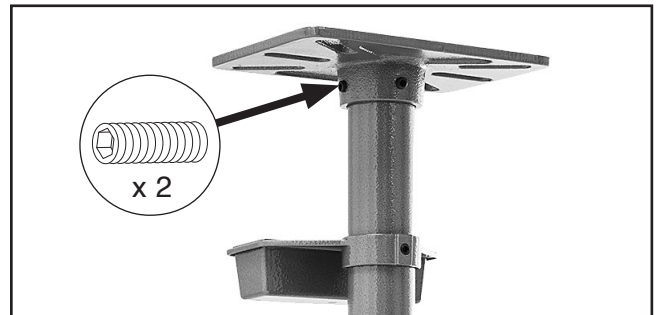

Figure 7. Attachment plate installed.
4. Place attachment plate on column, then tighten (2) pre-installed set screws to secure (see **Figure 7**).